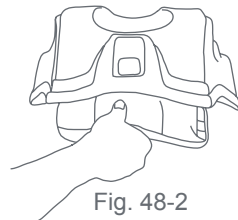

Fig. 48-3
- If the Seat Angle Indicator shows ANY red, the Safety Seat is either **too upright or too reclined**. If the seat is too upright, extend the foot one position at a time just until no red shows. To extend the foot of the base, pull downward on the hand hold as shown in Fig. 48-2 while holding onto the base. To retract the foot, press inward on the lock button as shown in Fig. 48-3 and push upward on the foot. Be careful not to pinch your finger as the foot retracts. Check the level indicator to see if the seat is now level.